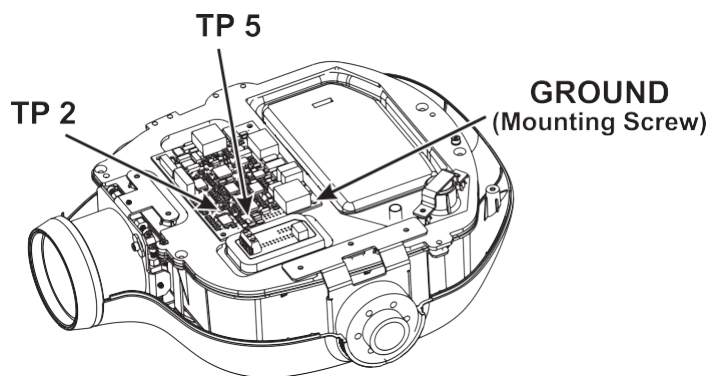

Figure 34. Test Points
Tube potential measurement is direct method by using potential divider and DSO as shown below. Potential divider is inbuilt into the ImageSKAN HD and measurement point TP2 on the control board(refer figure 34) provided for hooking measuring probe.
1. Connect the probe of the DSO to TP2 (kV feedback) with respect to ground (mounting screw) of control board as shown in the Figure 34.
1. Connect the probe of the DSO to TP5 (mA feedback) with respect to ground (mounting screw) of control board as shown in the Figure 34.
1. Connect The probe of the DSO to TP2 (kV feedback) with respect to ground (mounting screw) of control board as shown in the Figure 34.